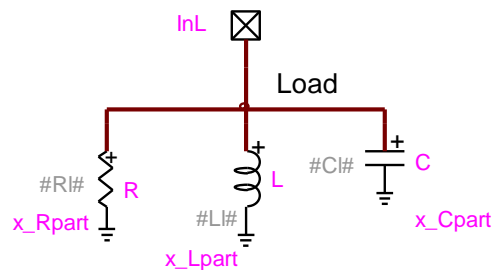

Figure 22 The subcircuit contents of “RLC_Load (PQ)”
5.2 Example: programming the mask of “RLC_Load (PQ)”
This section presents the programming of the “RLC_Load (PQ)” mask. The first step is to create a subcircuit from a given circuit. The subcircuit level of “RLC_Load (PQ)” is shown in Figure 22.